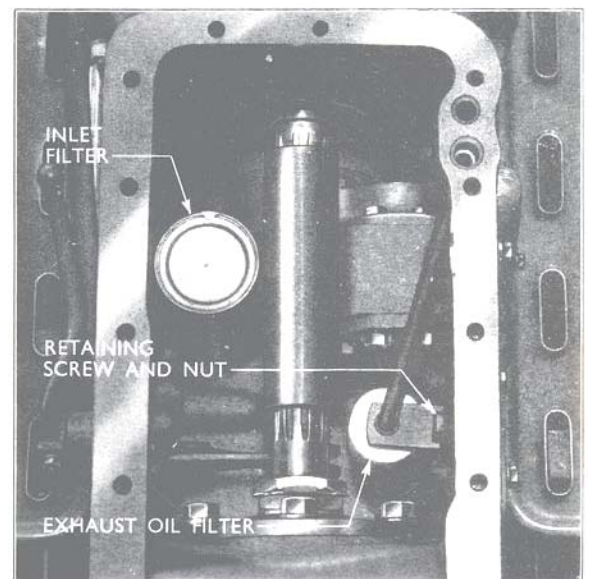

Fig. 39
2. Remove the screw retaining the exhaust oil pipe to the right-hand side of the transmission housing. (See Fig. 39.)